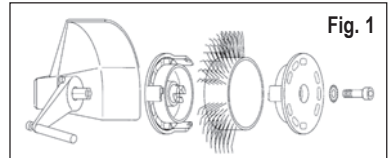
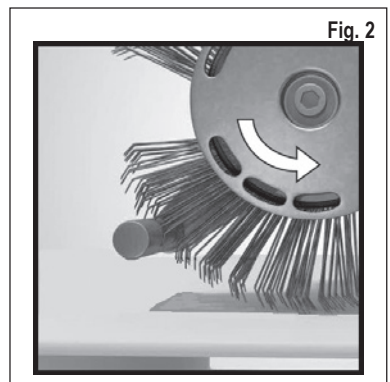

Fig. 1
Fig. 2
3. Interrupt supply of compressed air and then fasten **MBX® Bristle Blaster®** 23 mm or 11 mm belt correctly to the tool using the related adapter system (pay attention to direction of travel) and the related serrated lock washer and screw. See Fig. 1 and Fig. 2
- Are you using an **MBX**® belt with the wrong direction of travel? – Fit the brush belt such that it runs in the correct direction (see section 7, Placing in operation, Fig. 2).